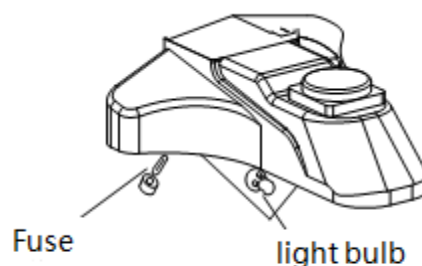

Fig.18
10.1.3 Screw off the light base, and pull out the light base board, and rotate at some angel until the light base comes out. Take out the damaged bulb, and replace with a new one. While inserting the new bulb, please make sure to get the good contact and solid connection between light bulb and Base. While taking bulb with hand, make sure to wear a glove to avoid the finger print being left on the bulb. (Finger print will erode the bulb surface, lower the brightness, shorten the bulb working life).(Fig.18)